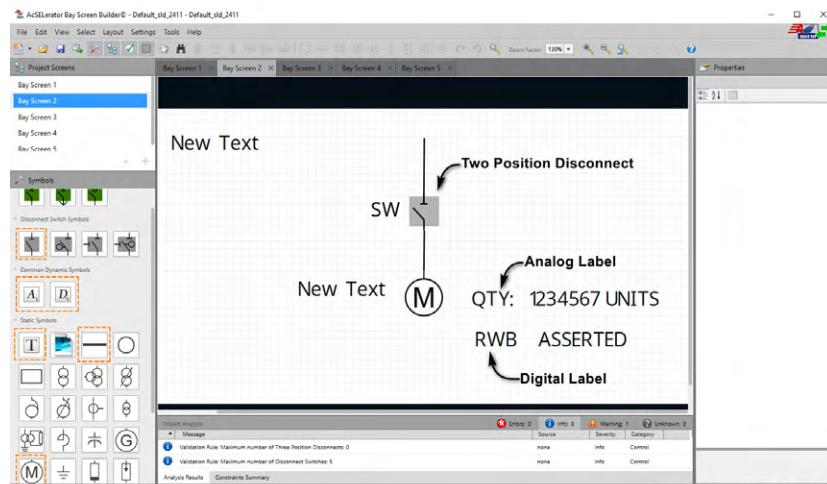

Figure 8.76 Required Drag-and-Drop Symbols
- Step 2. Drag-and-drop the symbols required for your diagram and arrange them, as seen in *Figure 8.72*. The required symbols are highlighted with orange boxes in *Figure 8.76*. The symbols required are as follows: two text boxes, two lines, one motor, one analog label, one digital label, and a two-position disconnect switch.